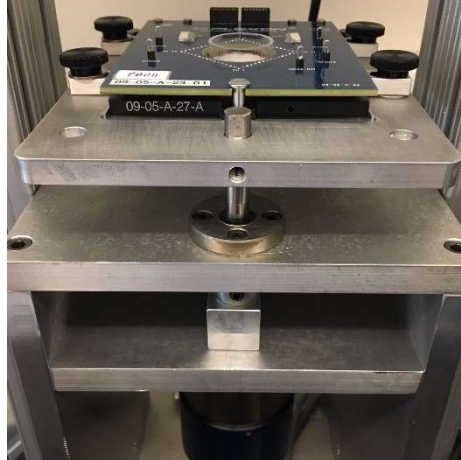

Fig. 32: Homing block underneath the Y-adapter.
- 3) Before homing, if not already there, place the homing block underneath the Y-adapter as shown in **Fig. 32**.